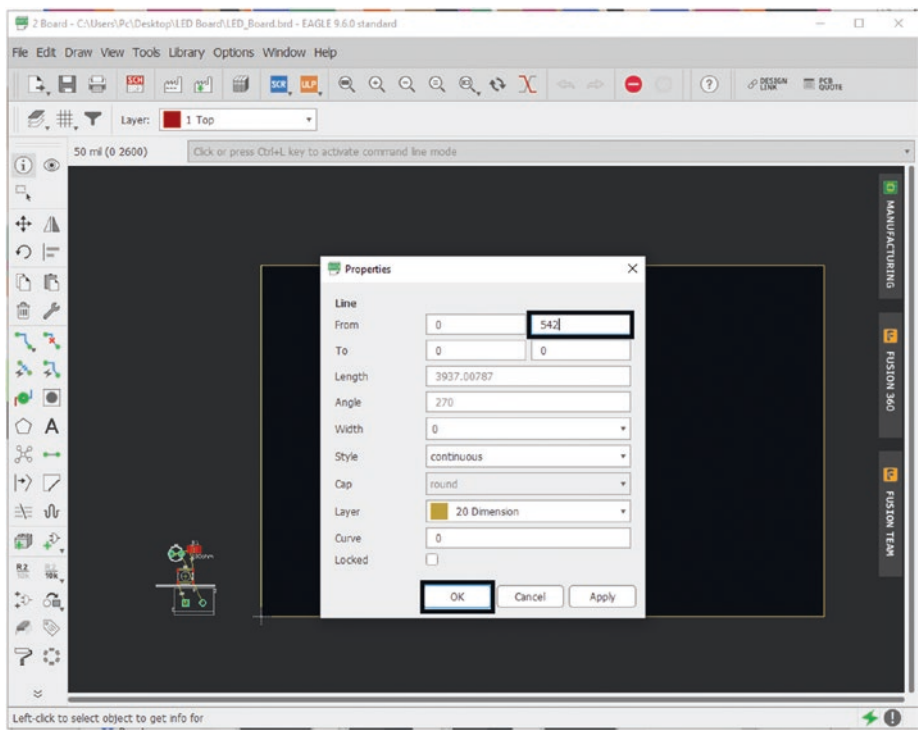

Figure 5-56. Update vertical line value
- 5. In the second text box next to “From,” type in 542 (if this value makes your board huge, please make sure you change your “Grid” to “mil”) and click “OK.” See Figure 5-56.